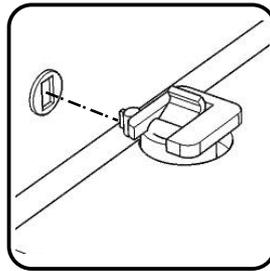

Figure 2
Attach Bottom (C) and Shelf (B) to Middle Panel (G), then flip the locks. (See Figures 2 and 3)